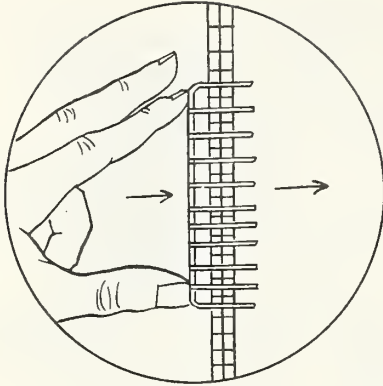

Fig. 4
5. Put the patch over the hole from the outside. Hold it tight against the screen so that the small, bent wire ends go through the screen. (Fig. 4)